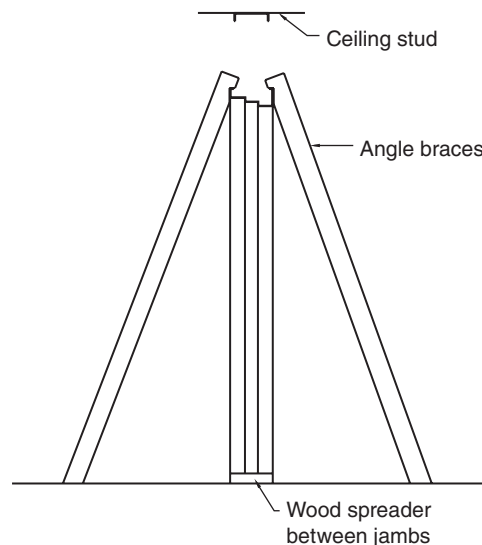

Figure 14 – Erect frame
8.2 Erect, brace, square and plumb frame as shown (see Figure 14).